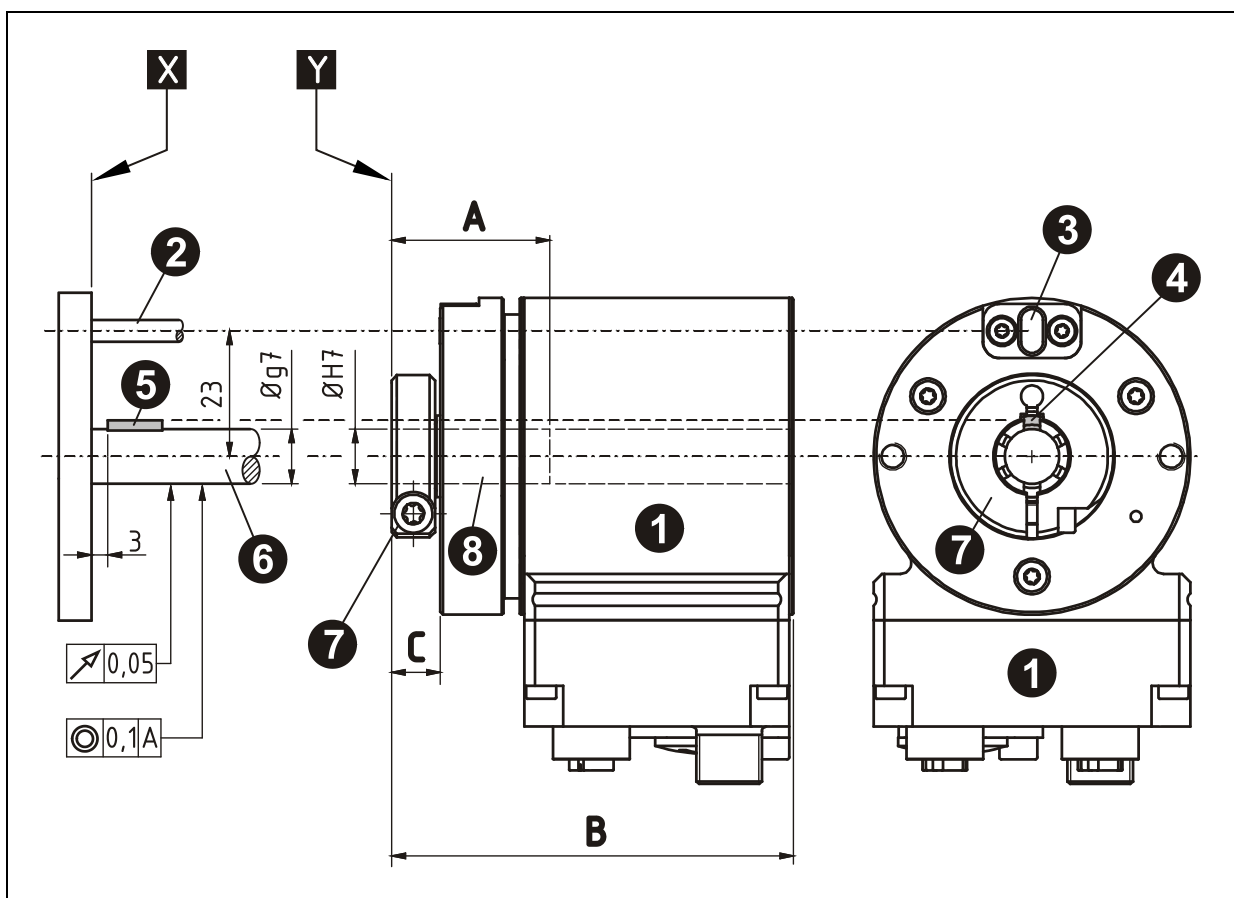

Figure 3: Customer-provided shaft, illustration showing the principle
- Axial slipping of the measuring system on the drive shaft must be prevented by fixing the clamping ring in position, see Figure 3.
- Radial slipping of the measuring system on the drive shaft must be prevented by a form-locking connection, using a parallel key / groove combination; the measuring system must be fixed in position on the drive end using a dowel pin, see Figure 3.
- The dowel pin must extend at least 4 mm into the groove insert, max. 5.5 mm. The distance from the measuring system flange **Y** to the customer-provided device plane **X** must be > 1.5 mm, see Figure 3.